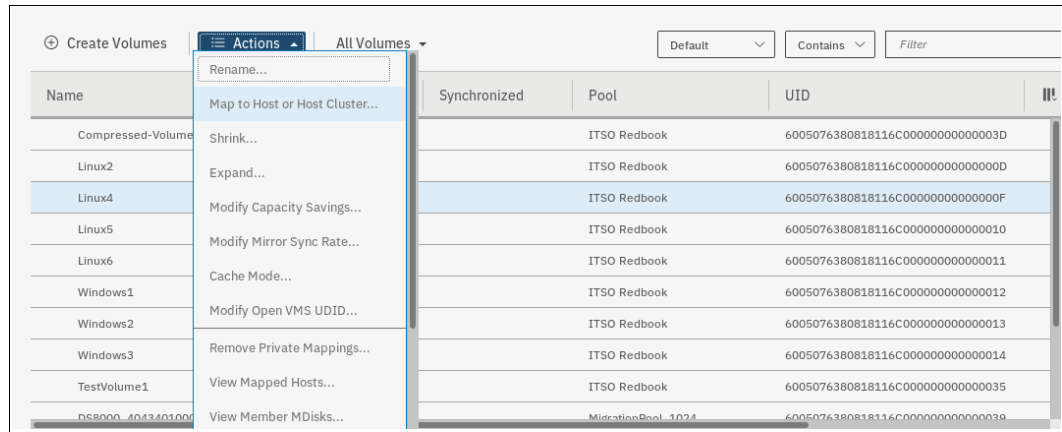

Figure 6-17 Map to Host
2. From the Actions menu, select **Map to Host or Host Cluster**, as shown in Figure 6-17 on page 330.